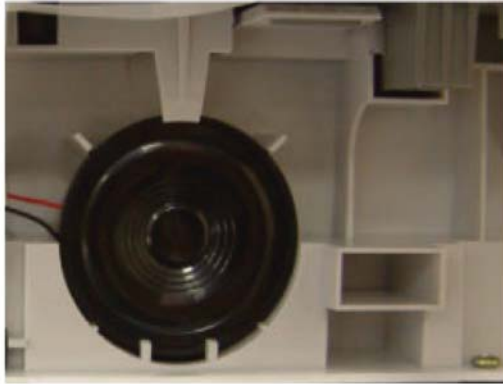

Figure 2
3. Press the top clip inwards until it unclips and pull out the speaker, Figure 2.